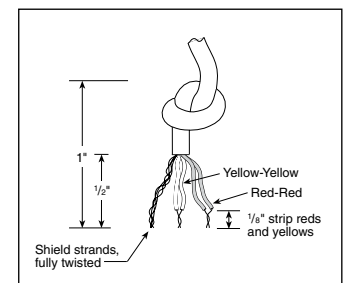

Figure 4
**Note:** The cable has two red wires and two yellow wires. Twist the two red wires together and the two yellow wires together (Fig. 4).